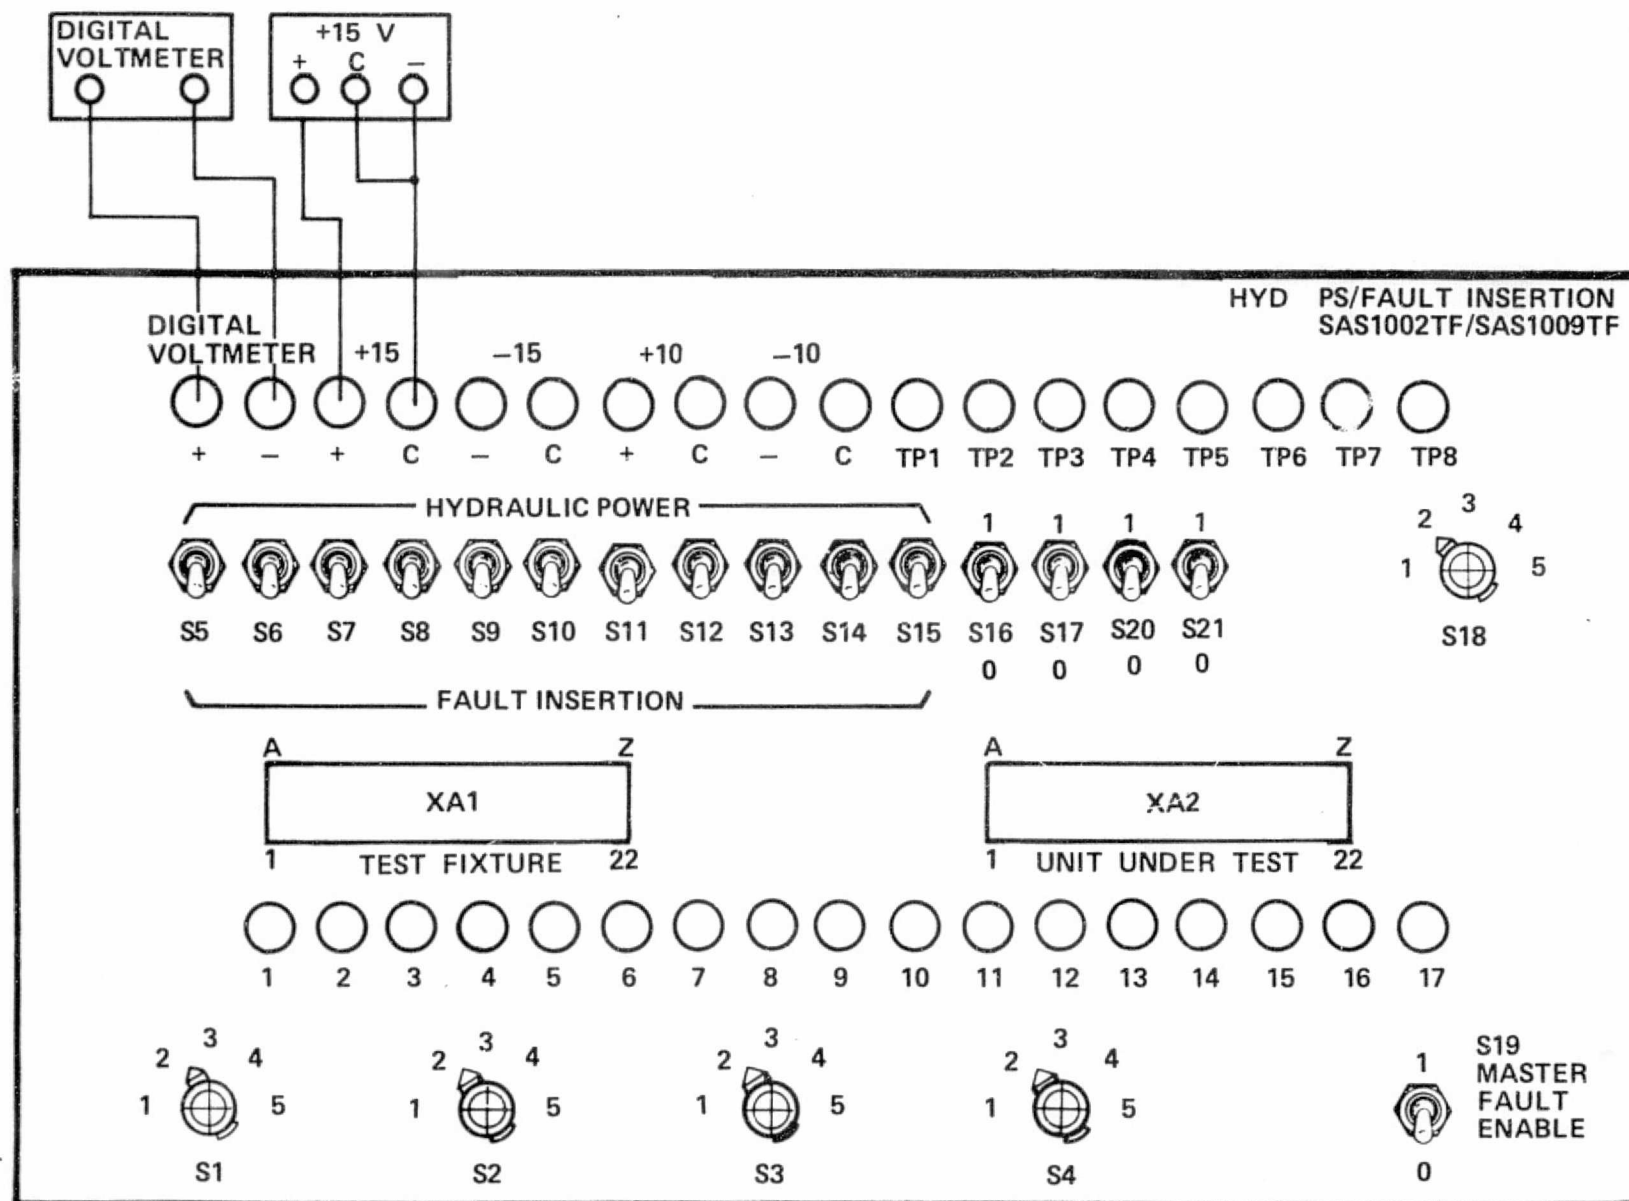

Figure 1. - Test interconnection.
1. Insure that +15 V power supply is turned OFF. Connect test fixture as shown in figure 1. Set S5 through S15 to fault insertion. Set S16, S17, S20, and S21 to 0.